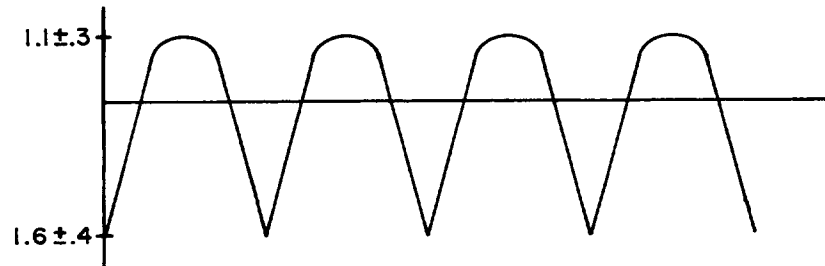

FIGURE 5-2
- 8) With the scope connected from Pin 2(+) to Pin 4(-), rotate the E/W wiper to the opposite end of the pot. The waveform shall decrease in amplitude smoothly and then increase out of phase as shown in figure 5-2 below.